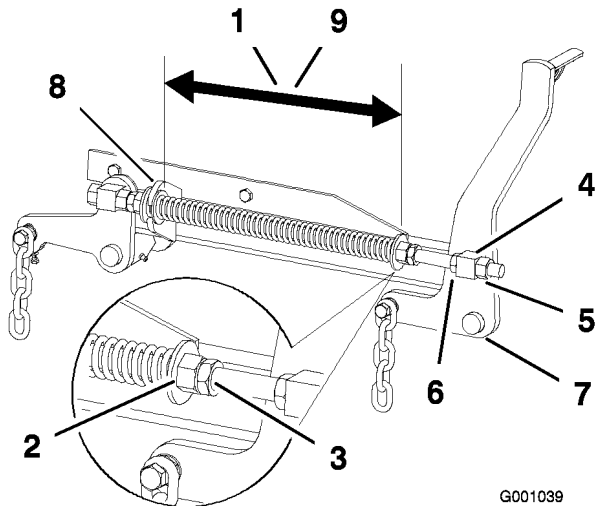

Figure 60
2. Check the distance between the two large washers, it needs to be 11-1/8 inches (28.2 cm) for 52 inch mower decks and 10-1/2 inches (26.7 cm) for 60 inch mower decks (Figure 60).
3. Adjust this distance, by loosening the spring jam nut and turning the nut in front of each spring (Figure 60). Turning the nut clockwise will shorten the spring; counter-clockwise will lengthen the spring.
4. Lock the nut into position by tightening the spring jam nut (Figure 60).